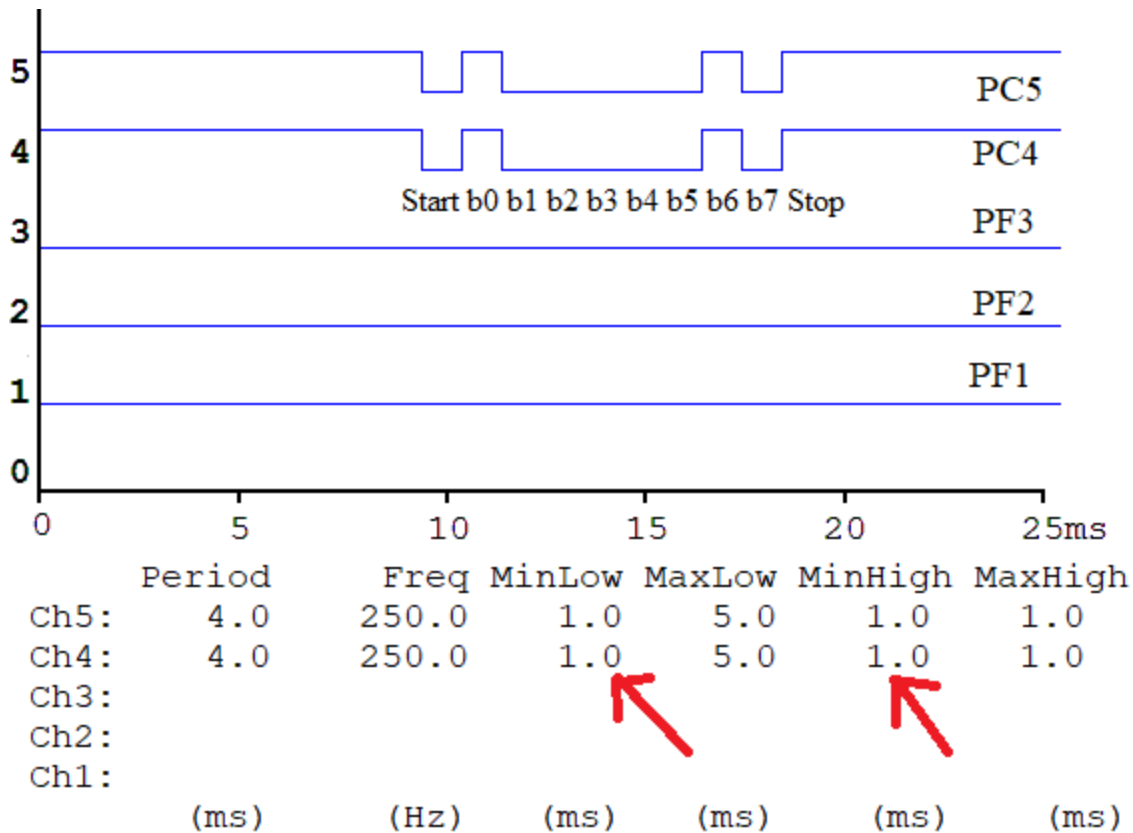

Figure 9.4. TExaSdisplay logic analyzer output.
Write a temporary main program for testing the transmitter, which initializes the TExaS, SysTick, ADC, UART1, heartbeat, and enables interrupts. After initialization, this transmitter test main (foreground) performs a do-nothing loop. This main program will only be used for testing, and will be replaced by a more complex main once the receiver is built. The ADC sampling and UART1 transmissions occur in the SysTick interrupt service routine running in the background. Figure 9.4 shows one UART transmission. Notice the start bit is always low, the data bits go from 0 to 7, and the stop bit is always high. Notice also the minimum width of the high and low pulses are 1ms (baud rate is 1000 bits/sec).
To debug the transmitter on the real TM4C123, you can place the ADC sample and the interrupt counter in a debugger **Watch** window. The interrupt **TxCOUNTER** should increase by 10 every second, and the 12-bit ADC sample should respond to changes in the slide pot. The heartbeat on this SysTick ISR is on PF2, which is toggled at the start of the SysTick ISR. Figure 9.4 shows the transmitter being debugged with the TExaS logic analyzer. For this capture, the distance was 0.79 cm, the analog input voltage was 1.2 V on the ADC, and the message was 02 30 2e 37 39 20 0d 03 on PC5.
- Q1. Capture a waveform like Figure 9.4. What is the baud rate?